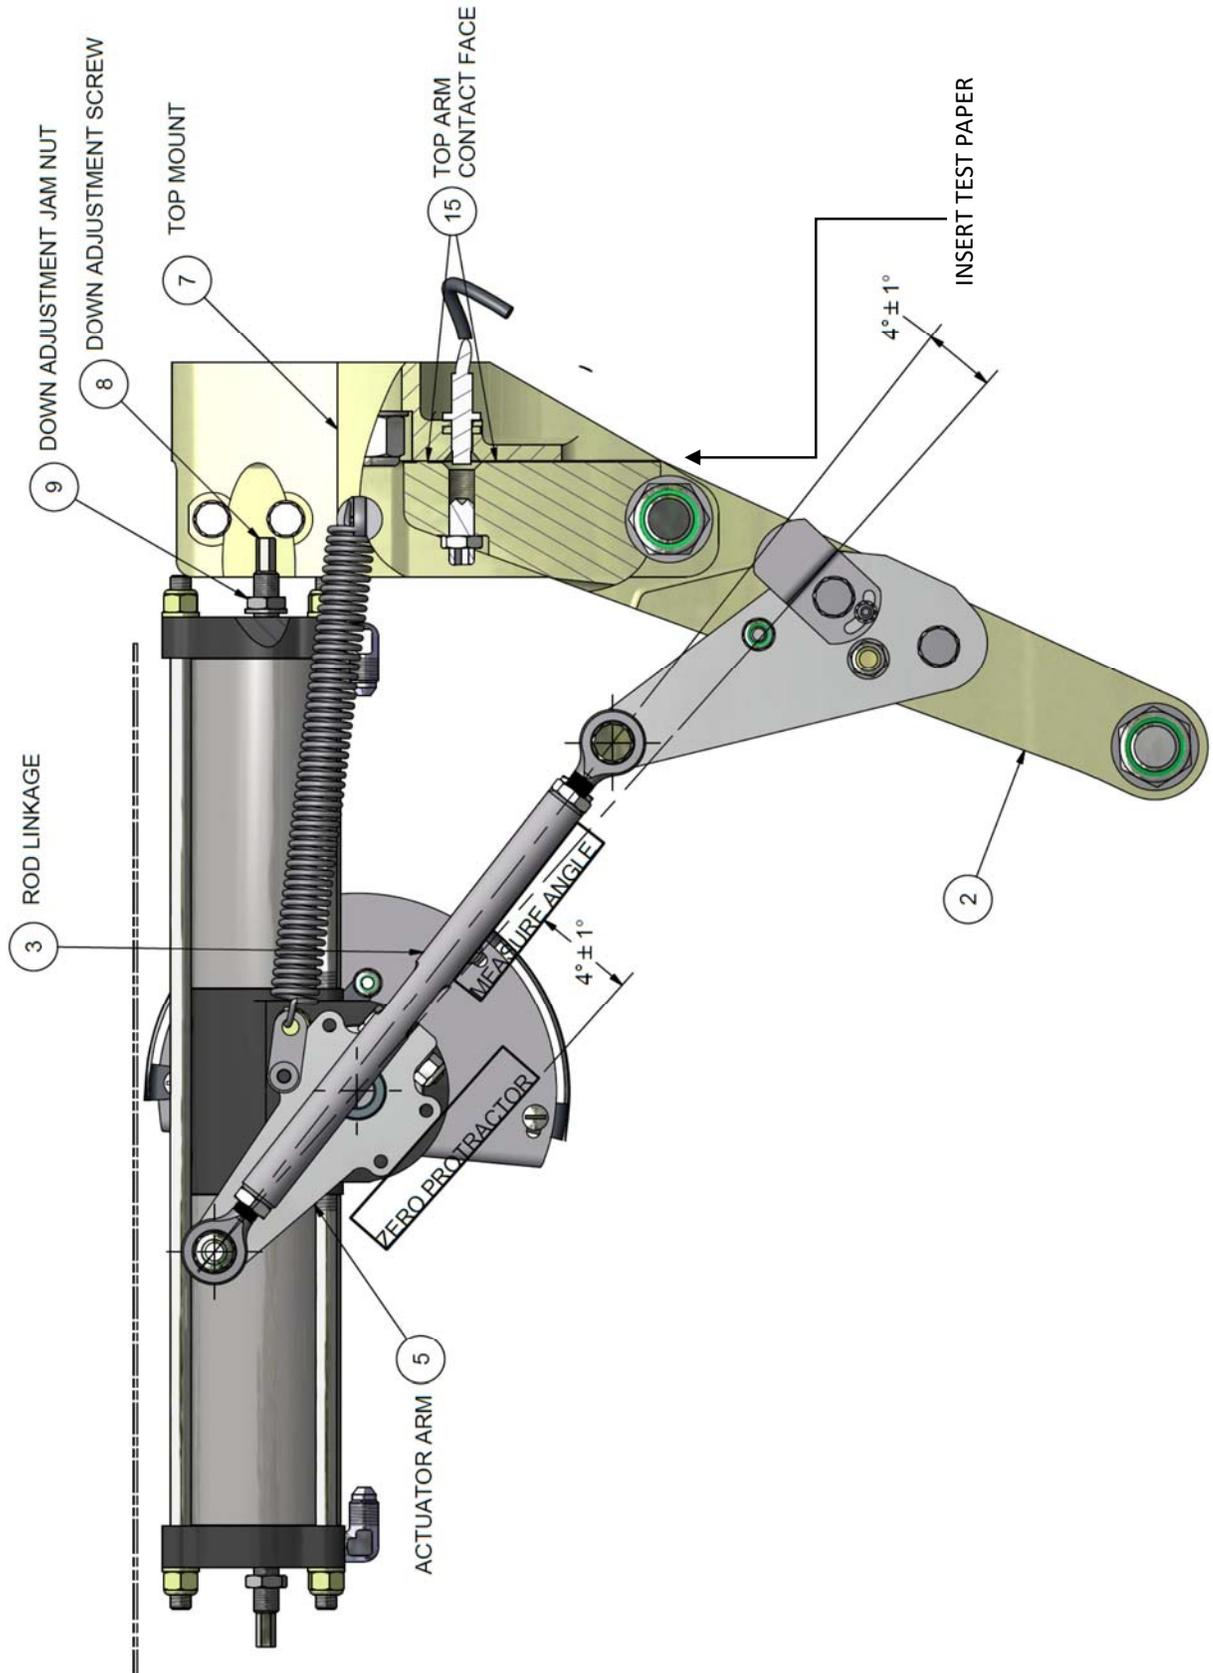

FIGURE 4-4B: MAIN GEAR ADJ. DOWN
22. Using a small digital protractor, the over-center angle will be verified. Lay the protractor across the bottom of the lower two screw holes in the actuator arm. Note: Older float models may not have flat spot shown; use the same location as shown. Zero the protractor. See Figure 4-4B. Then place the protractor on the top or bottom of the rod linkage. The measured angle should be $4^{\circ} \pm 1^{\circ}$. Repeat for the other actuator arm and rod linkage by zeroing the protractor on the other actuator arm and measuring the rod linkage angle.
28. Check the operation of the over center down lock. As the actuator rotates causing the contact faces to touch, the actuator arm should continue to rotate and “snap” past Top Dead Center (TDC). Make sure that there is preload on the linkage rods so that contact faces remain touching past TDC. Push and pull on the Top Arm Assembly (Item 2) to ensure it is locked over center. The Top Arm Assembly needs to be contacting the Top Mount (Item 7) when the gear is extended to properly transfer the landing loads. Ensure Top Arm and Top Mount are making contact by sliding a 3-inch wide piece of paper in (See Figure 4-4B and photo on this page), then moving gear to down and locked position. If paper is tight, gear is rigged correctly. If paper is able to slide out, then the Top Arm and Top Mount are not making proper contact and need further adjustment.
2. Loosen the jam nut on the Gear Down Proximity Switch located on the back of the Main Gear Top Mount. Thread the Gear Down Proximity Switch in or out until the face of the sensor is flush with the face of the Main Gear Top Mount. Reference Figure 4-4B. Tighten the jam nut on the proximity switch to 10 +/- 3 inch-pounds.